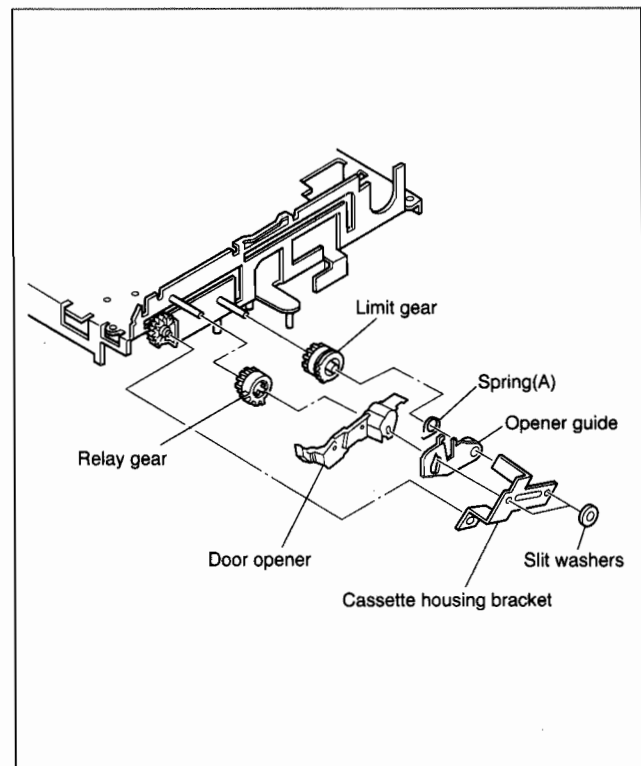

Fig. 2-2-3
- (2) Remove the two slit washers and remove the cassette housing bracket. (See Fig.2-2-3.)
- (3) Remove the opener guide, spring(A), door opener, relay gear and limit gear. (See Fig.2-2-3.)